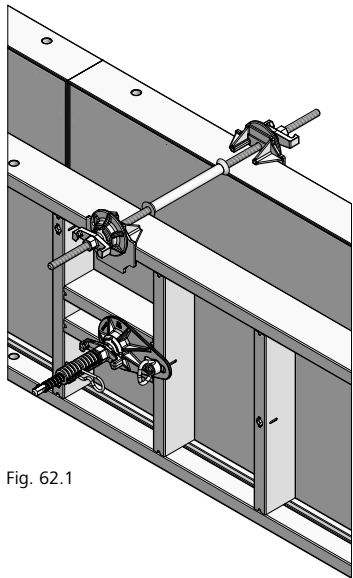

Fig. 62.1
The central tie holes allows the StarTec XT panel to be used horizontally without problem (Figures 62.1 and 62.3). To provide stability and to ensure that the wall thickness is correct in the vicinity of the top tie hole, a spacer or a wooden blocking may be required. The spacer is available for wall thicknesses 20, 24, 25 and 30 cm.
- Two articulated flange nuts (Figures 62.1 to 62.4) We also recommend the use of a plastic tube. It serves as a spacer and protects the tie connection against contamination.